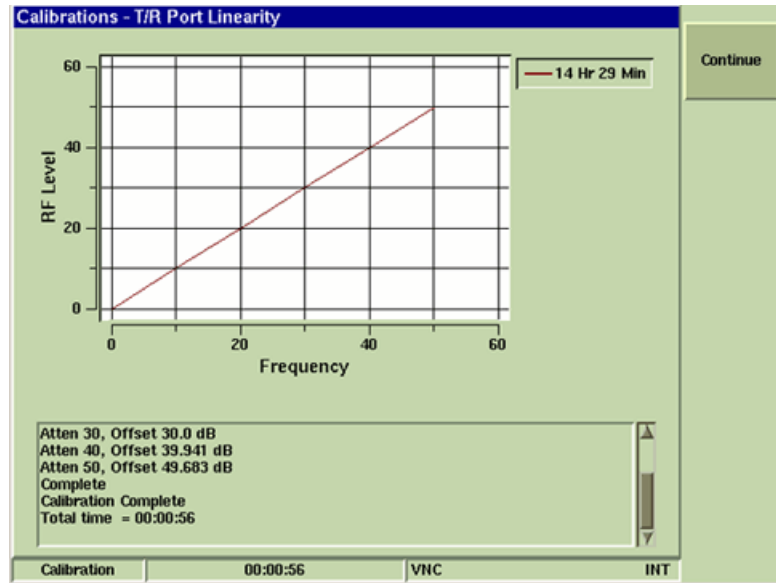

Fig. 4-33 T/R Port Linearity Signal Trace
- When the T/R Port Linearity Calibration Procedure is complete, verify Calibration Complete is displayed in dialog box. Verify signal trace on Test Set resembles signal trace shown in Fig. 4-33.